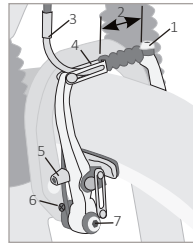
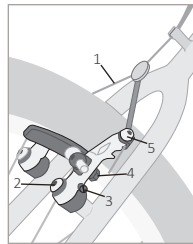
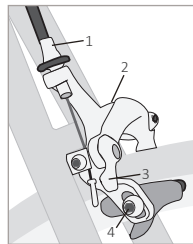

FIGURE 3.21
FIGURE 3.22
FIGURE 3.23
- **Rim brake:** brake pads apply pressure to the rim. The pressure is controlled with a hand lever that is connected to the brake by a cable. Examples include direct-pull or V-type brakes (Figure 3.21), cantilever brakes (Figure 3.22), and road or caliper brakes (Figure 3.23).
- For most direct-pull (Figure 3.18) or cantilever (Figure 3.21) systems the barrel-adjuster is on the lever. For most road
caliper systems (Figure 3.22) the barrel-adjuster is on the brake itself.
1. Turn the center-adjust screw (Figure 3.18 or Figure 3.21) in small increments.
- For most road calipers, lift the brake release lever (Figure 3.22) to the UP position. To close, turn the lever to the DOWN position.
- For cantilever brakes, release the linkwire (Figure 3.21). With one hand, push the brake-pads fully against the rim. With the other hand, pull the leaded end of the linkwire from the fork on the brake-arm. Release the brake-pads.
1. Loosen the brake-attachment bolts (Figure 3.22).
1. Turn the fixed-pad adjuster (Figure 3.23).